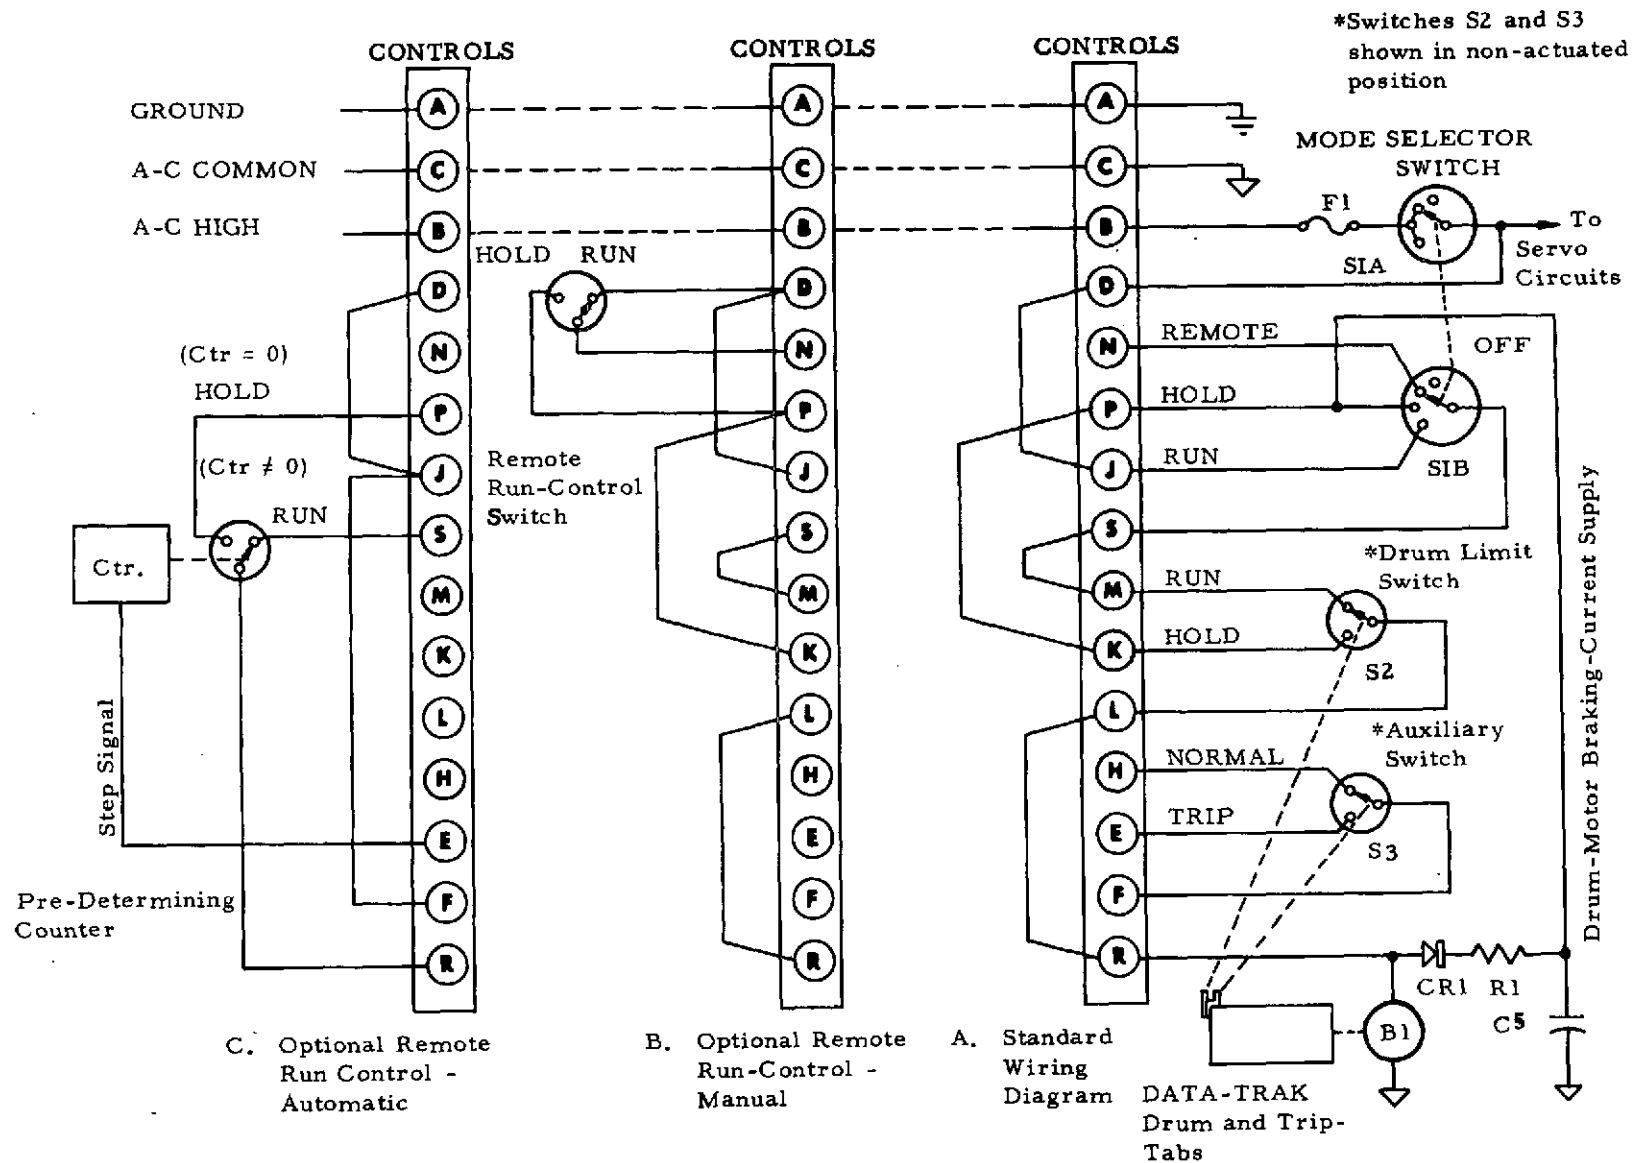

FIGURE 5-1 MODEL 5110 DATA-TRAK STANDARD/SPECIAL RUN-CONTROL WIRING DIAGRAM
Standard wiring of the terminals and two alternate wiring methods are shown in Figure 5-1 and described under the following headings.
For clarity, the terminals are not shown in their normal sequential order in Figure 5-1. Also, the internal DATA-TRAK wiring and components are shown but once since it is identical in each of the two additional examples.
Example B in Figure 5-1 illustrates the manner in which an external remote-control switch may be connected to the DATA-TRAK. No changes in the standard wiring of the terminals are required for this application; just connect three wires from the external switch to the terminals as shown in the figure. The remote-control switch will be enabled to initiate a RUN or HOLD only when the MODE-SELECTOR is switched to REMOTE; either drum-motor a-c energizing current or d-c braking current will then be allowed to pass through the remote switch, through the REMOTE contacts of the MODE-SELECTOR, and on through the Drum-Limit switch to the drum-drive motor.
For applications requiring continuous drum-rotation for a predetermined number of program cycles, the run-control circuits of the DATA-TRAK may be connected to an external predetermining counter as shown in example C in Figure 5-1.
The examples shown in Figure 5-1 are not intended to represent all possible external connections for special functions, but are merely presented as a basis for a clear understanding of the circuitry involved. A number of additional optional applications of the run-control circuitry are listed below and on the following page.
- 4) If two auxiliary switches are required for an operation in unlimited or predetermined program-cycle applications, the Drum-Limit switch may be utilized along with the standard Auxiliary switch for this purpose. Three jumpers must be removed from the entrance board (from "S" to "M", from "P" to "K", and from "L" to "R") as they are in example C of Figure 5-1. External wiring may then be connected to terminals "M", "L", and "K" in a manner appropriate for the particular function desired. If this is done, a jumper must be installed between terminals "S" and "R" to enable the drum-drive circuits.